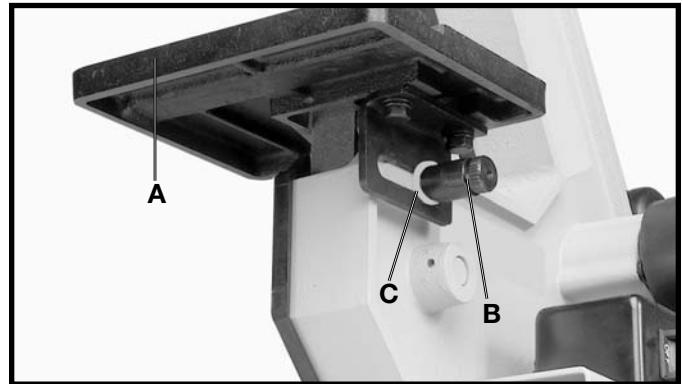

Fig. 17
- Position the table assembly (A) Fig. 17, in position on the belt sander frame. Place a 10mm flat washer (C) Fig. 17, on the locking stud (B), and thread locking stud (B) into threaded hole in casting to hold table assembly in place, as shown.